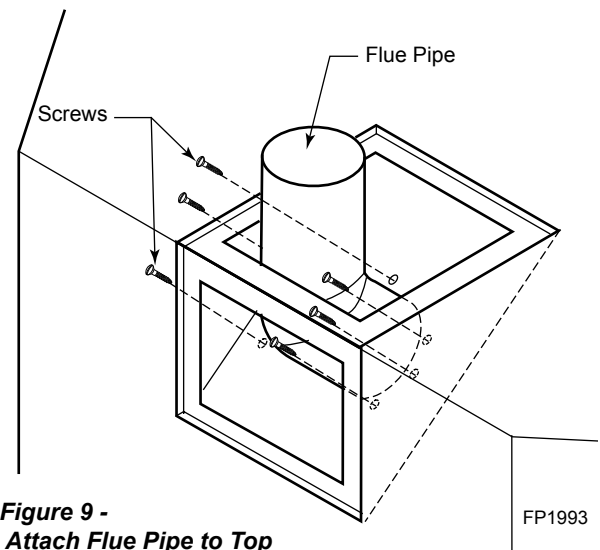

Figure 9 - Attach Flue Pipe to Top Vent Configurations
5. Replace flue pipe to top of firebox. Ensure the gasket is in place and undamaged. Secure with eight (8) screws. *Figure 9*